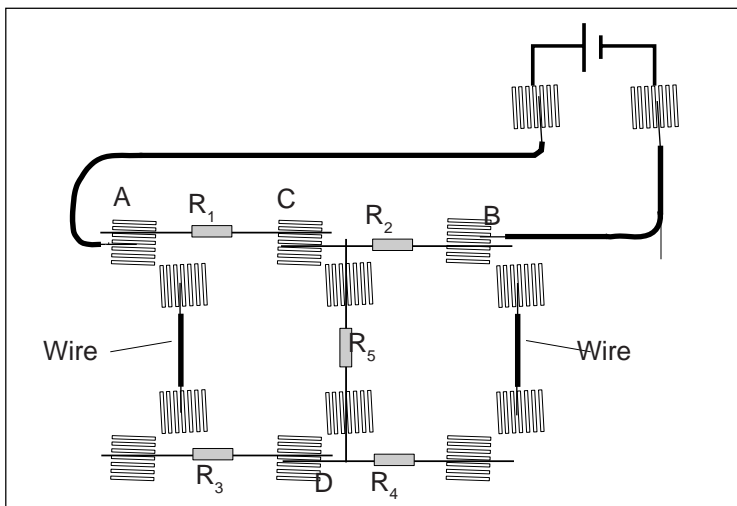
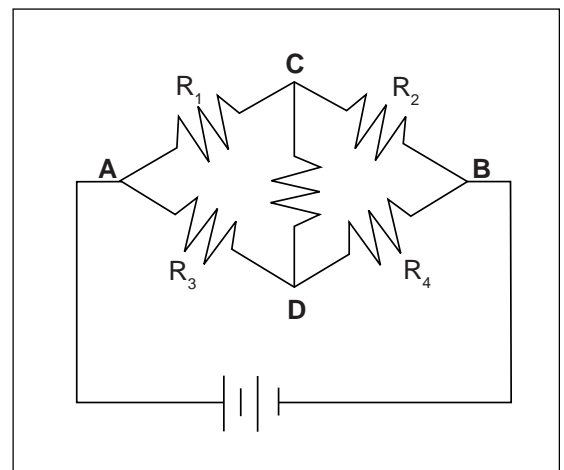

Figure 7.1a
Figure 7.1b
- ① Connect the circuit shown in Figure 7.1a using any of the resistors you have except the $10\ \Omega$ one. Use Figure 7.1b as a reference along with 7.1a as you record your data. Record the resistance values in the table below. With no current flowing (the battery disconnected), measure the total resistance of the circuit between points **A** and **B**.
- ② With the circuit connected to the battery and the current flowing, measure the voltage across each of the resistors and record the values in the table below. On the circuit diagram in Figure 7.1b, indicate which side of each of the resistors is positive relative to the other end by placing a "+" at that end.
- ③ Now measure the current through each of the resistors. Interrupt the circuit and place the DMM in series to obtain your reading. Make sure you record each of the individual currents, as well as the current flow into or out of the main part of the circuit, I_T .